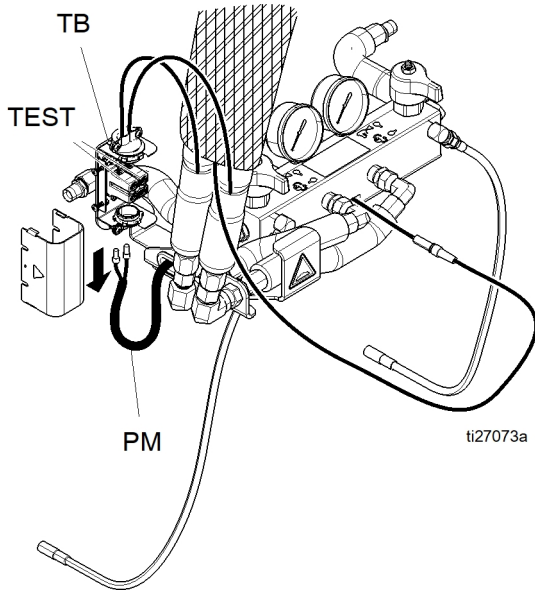

FIG. 25
16. To remove heater element, first remove RTD (360) to avoid damage. See step 7, **Replace RTD**, page 83.
17. Remove heater element (357) from housing (351). Be careful not to spill any fluid left in housing. See FIG. 25, page 85.
19. Install new heater element (357), holding mixer (359) so it does not block RTD port (P).
20. Reinstall RTD (360).
22. Replace heater shroud (266).